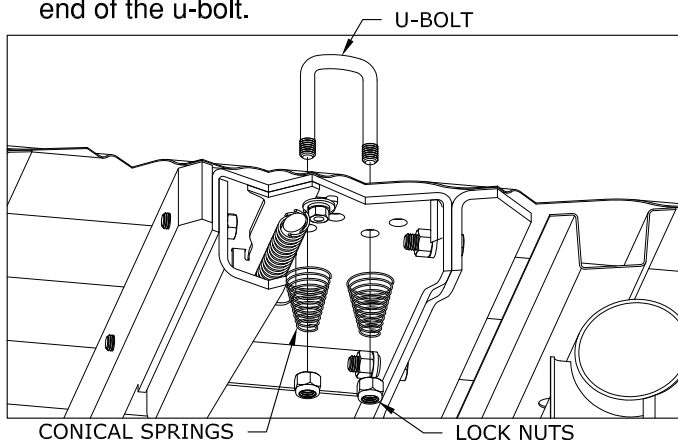

Figure G3: Cut away view of bed and center section
- 3. Add springs.** Place a conical spring over each leg of the u-bolts and secure with a  $\frac{1}{2}$ " lock nut, see Figure G3. Tighten the lock nut until the nut is flush with the end of the u-bolt.